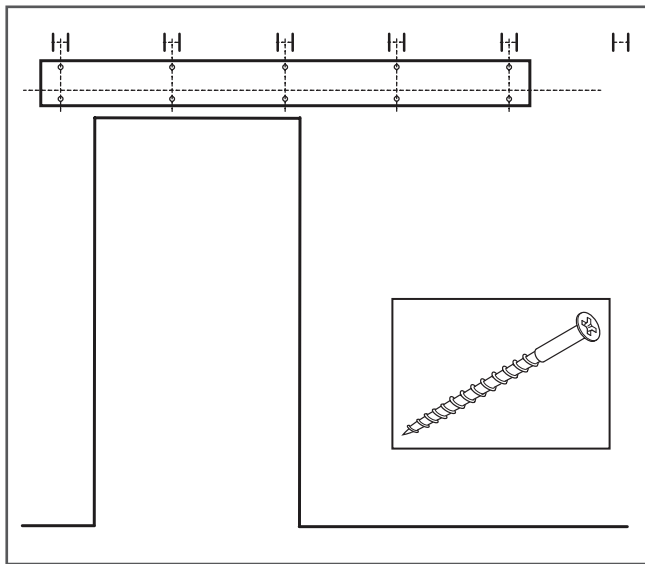

Figure 8
9. Align the line on the wall with the line made on the header in step 5. Ensure pilot holes align with wall studs (Figure 8).
10. Install header using 3" wood screws (Figure 8).